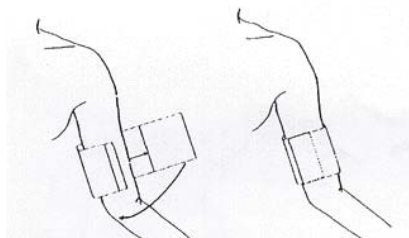

Figure 5.2
2. Apply the blood pressure cuff to the patient's arm or leg following the instructions below (Figure 5.2).